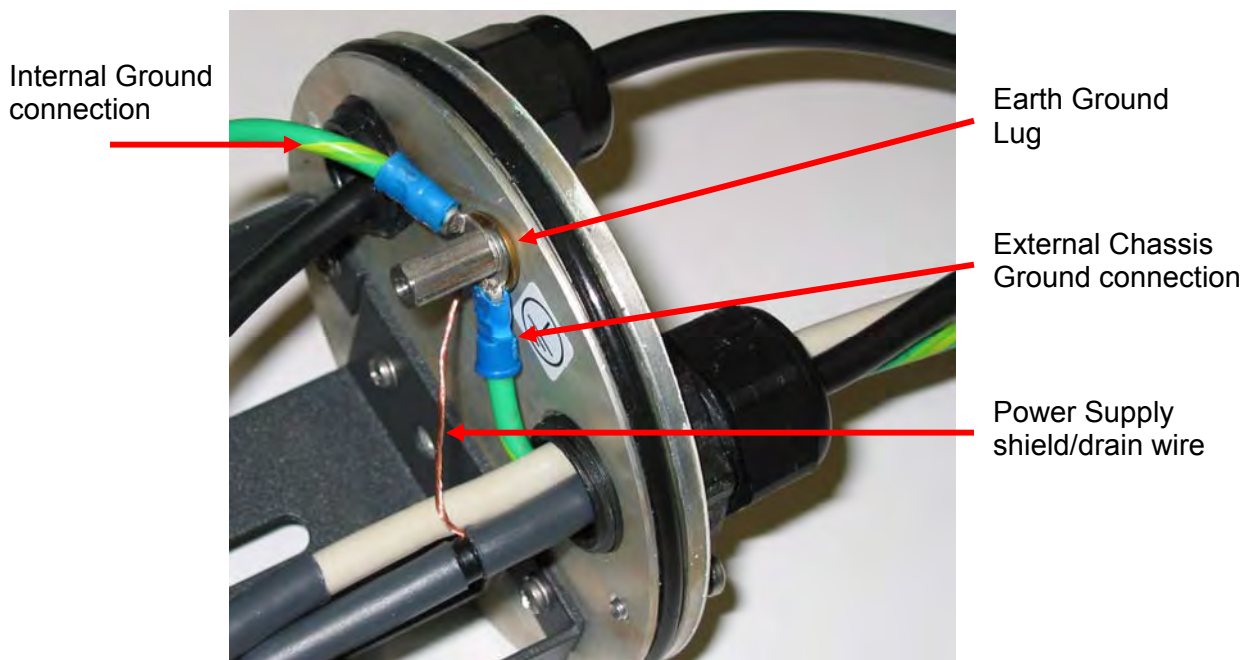

Figure 3-2: Earth Ground Connection
When the camera is shipped from FLIR, an internal ground wire (green) connects the interface board to the Earth Ground Lug, located on the inside of the rear of the enclosure. If it is disconnected during the installation, it must be reconnected. For proper installation, a ground connection from an external Earth ground must be connected to the Earth Ground Lug as shown in Figure 3-2: Earth Ground Connection. Typically the Earth ground connection will be part of the power cable bundle.
5. Secure the front cover to the enclosure using the included screws. If the ground cable inside the enclosure was disconnected, reconnect it to the ground lug on the rear plate of the enclosure. Connect the Earth Ground lead to the Earth Ground Lug on the inside of the rear of the enclosure (refer to Figure 3-2: Earth Ground Connection).